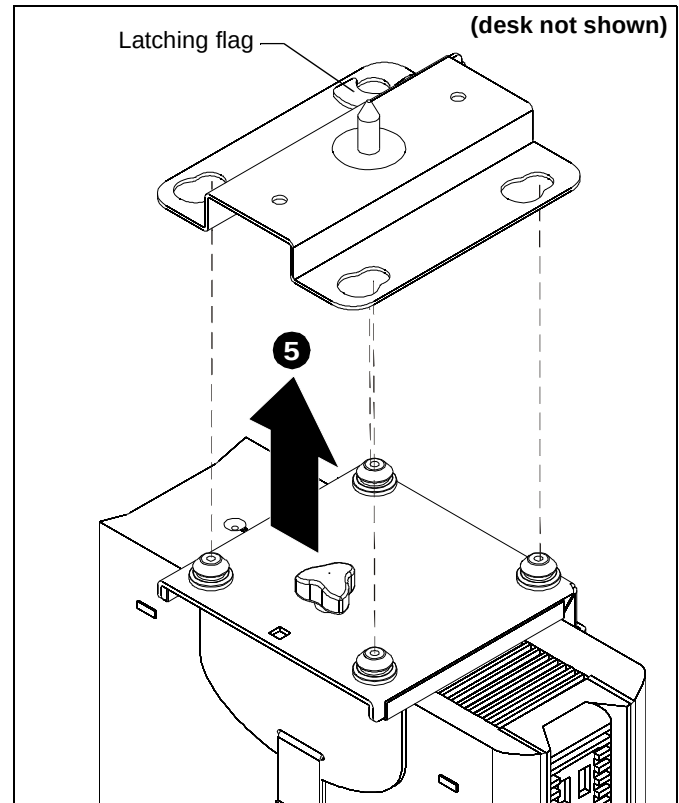

Figure 17
5. Insert four mounting buttons into four mounting holes on the bracket. (See Figure 17)